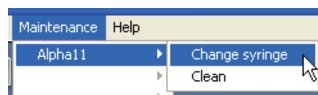

Figure 178: Change syringe option in the Maintenance menu
2. From the *Maintenance* menu select the appropriate Processing Module then select "Change syringe" (see Figure 178).